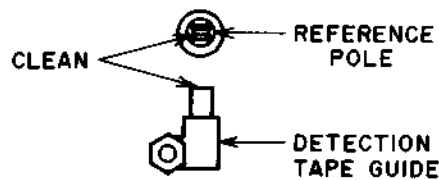

Fig. 9-2
- NOTE:** Clean the reference pole and the Detection tape guide before adjustment. (Refer to Fig. 9-2).